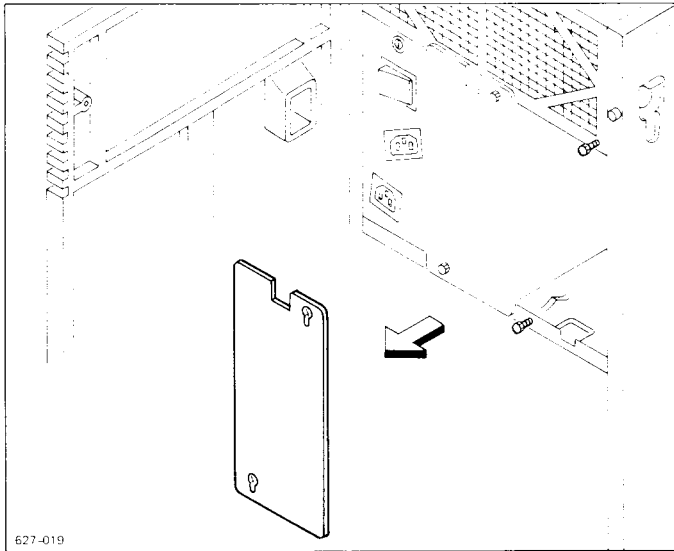

Figure 8-3. Removing the Steel Plate
1. Use the 1/4-inch hex nut driver to loosen the two screws that hold the plate in place, and then remove the plate (see Figure 8-3).